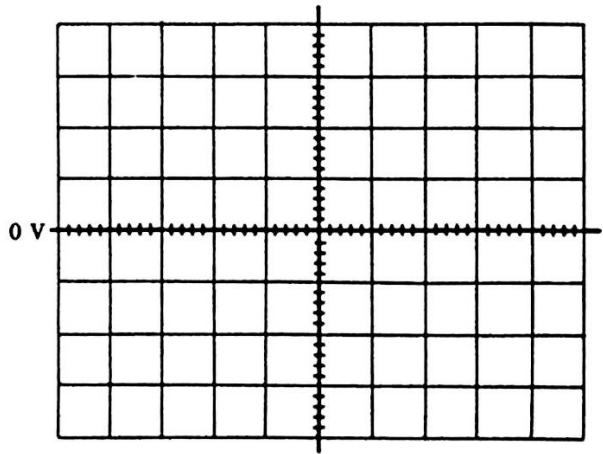

Figure 3.3a
4. Sketch  $v_I(t)$  and  $v_O(t)$  on Fig. 3.3a.